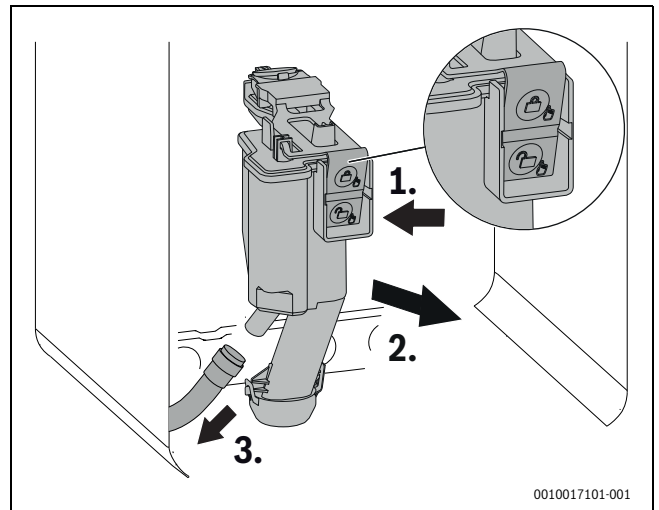

Fig. 97 Removing the condensate trap
- ▶ Remove the condensate trap (→ Fig. 97).